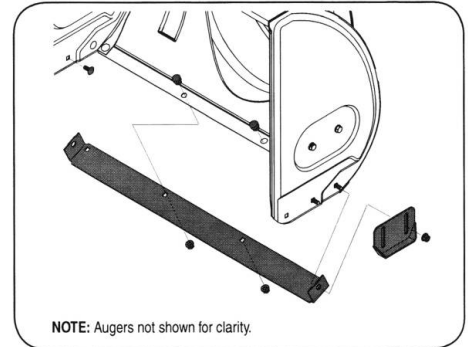

Figure 13
1. Remove the four carriage bolts and hex flange nuts which secure them to the snow thrower. See Figure 13.
2. Reassemble new skid shoes with the four carriage bolts(two on each side)and hex flange nuts. See Figure 13.